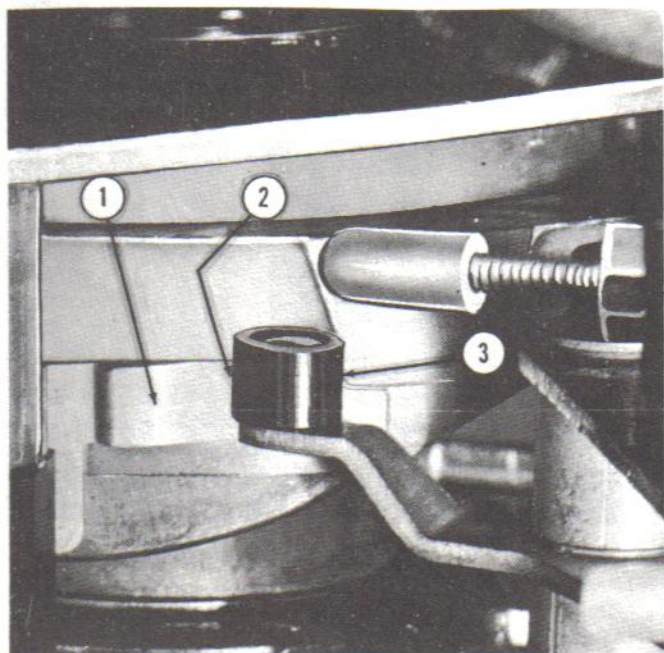
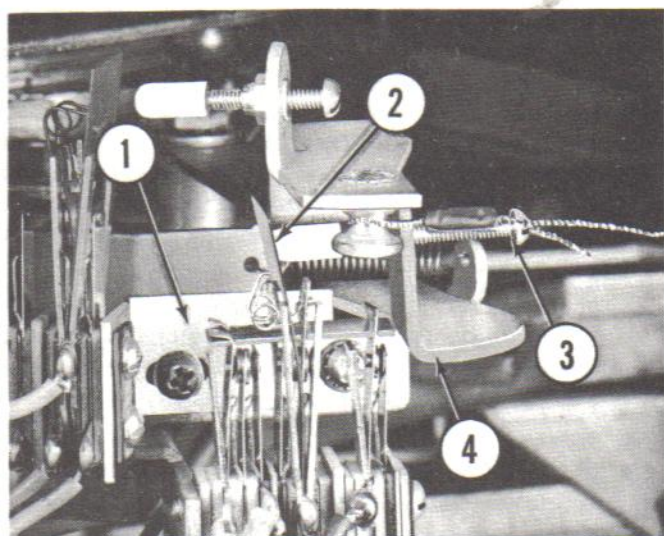

Fig. 59. MUTE AND PLAY SWITCH ADJUSTMENT
Fig. 60. MUTE AND PLAY SWITCH ADJUSTMENT
(1) Release any selector pin and let the mechanism advance in its cycle until the roller (Fig. 59, Item 3) is at the base of the adjustable lobe (Item 1). The stop plate (Fig. 60, Item 1) should be set to
stop the actuating lever (Item 4) with a clearance from 0" to 1/64" between the roller and the cam surface as shown in Figure 59, Item 2.
(2) Manually turn the changer motor shaft counterclockwise until the roller is on the peak of the adjustable lobe. Continue turning the changer motor shaft in the same direction and as the roller rides off the adjustable lobe the play switch should be adjusted by the screw (Fig. 60, Item 3) to actuate with 1/16" overtravel as measured at the actuator (Item 2).